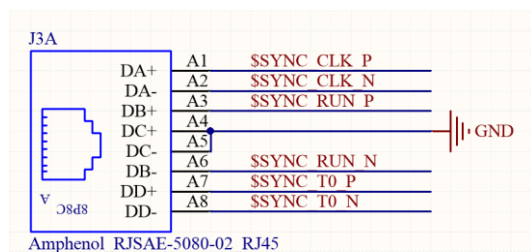

Figure 11.7: pinout of the SYNC RJ45 connector of the R5560SE
- pin A1/A2 of the SYNC IN connector (see **Figure 11.7**)
- The 25 MHz input clock can be routed to the LEMO OUT 0 or to the pin A1/A2 of the SYNC OUT connector (see **Figure 11.7**) on the front panel of the R5560SE